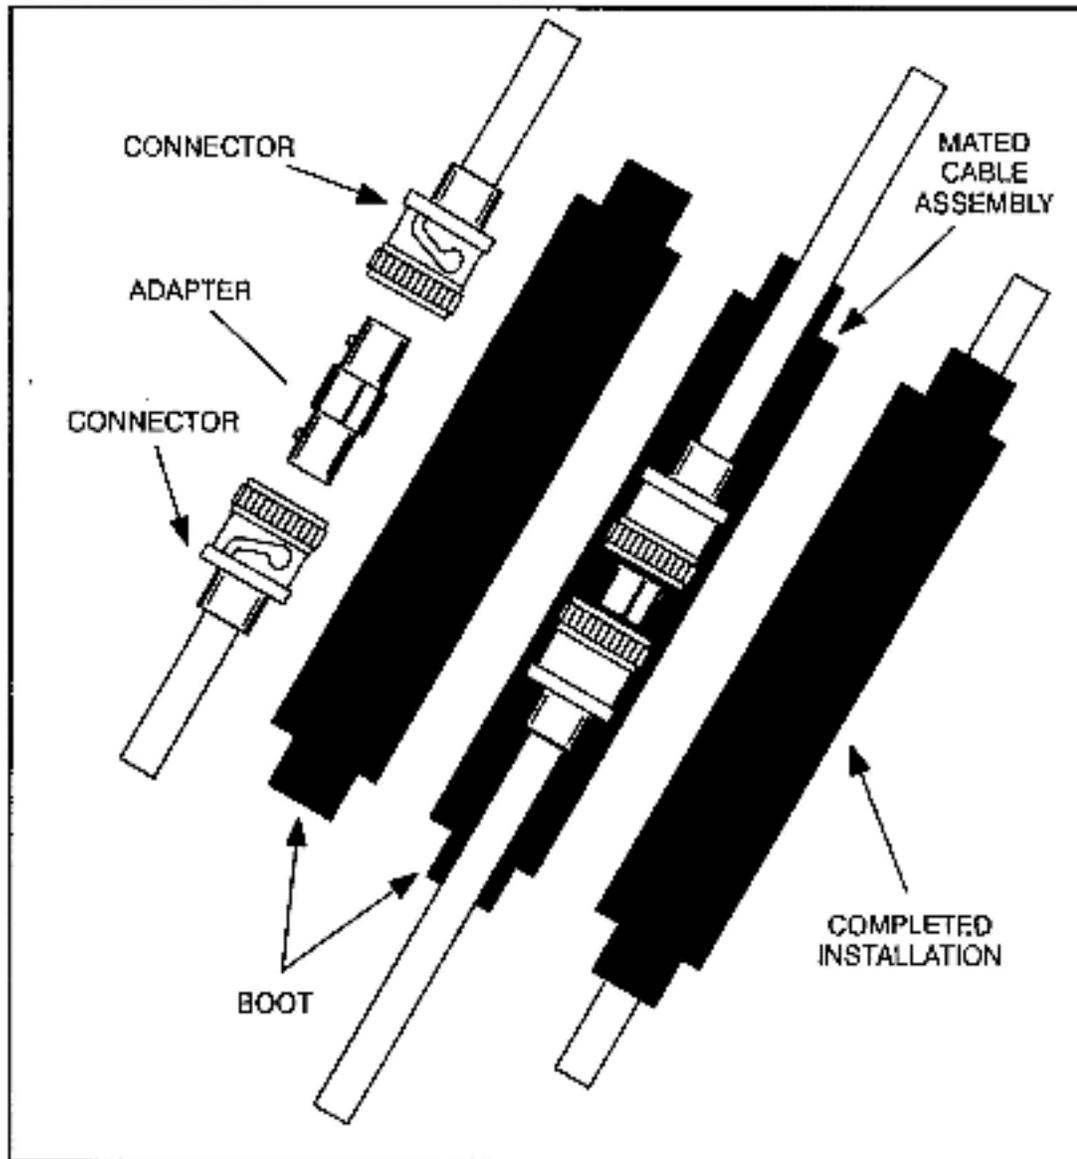

Figure 3.27 - Cable Splicing
- Step 2. Splice both parts using the jack-to-jack adapter. (Refer to figure 3.27.) Ensure the splicing connection can be accessed easily.
- Step 3. Isolate the splicing connection with an insulating jacket, a boot, heat shrink tubing, or electrical sealant tape as shown in figure 3.27.